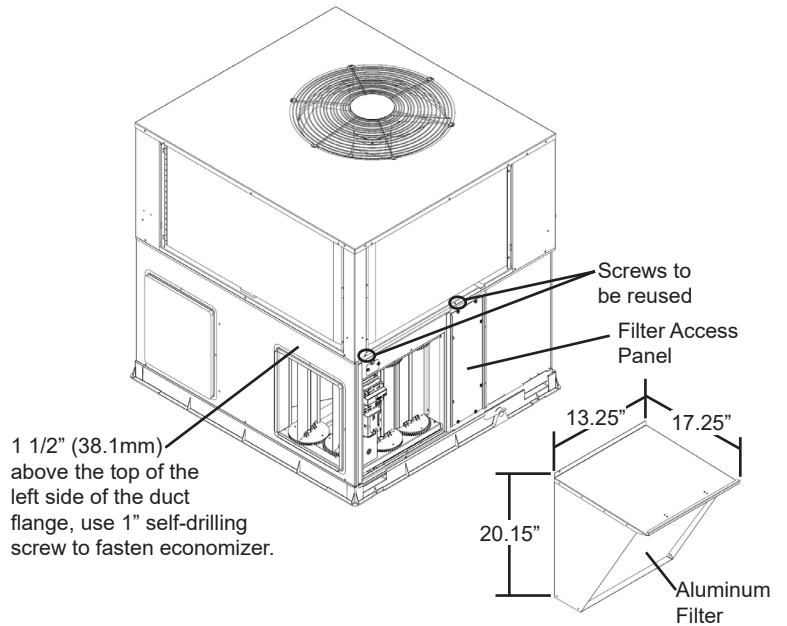

Fig. 6 - Economizer Installed in HVAC Unit
10. At a location 1-1/2 in. (38.1mm) above the top of the left side of the return duct opening use 1" self drilling to screw thru unit back panel and into the top rear corner of economizer assembly (Fig. 6).
13. Remove the filter access panel and install disposable filters in filter rack. Reinstall the filter access panel. Fig. 6. See Table 2 for filter sizes.